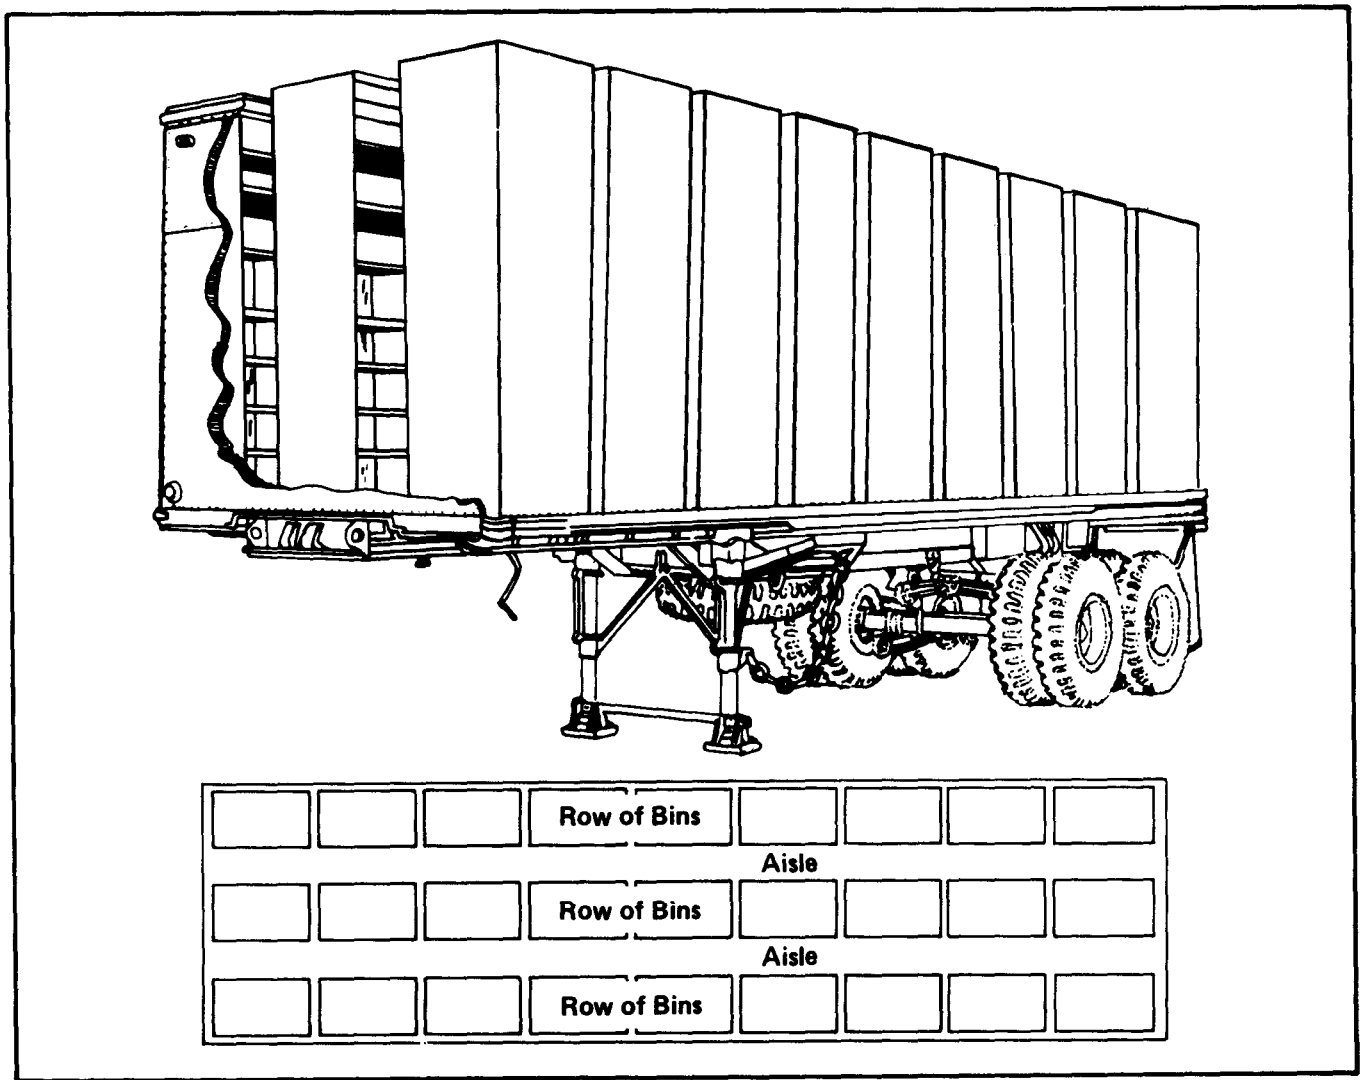

Figure 12-2. The 12-ton M129A2C semitrailer van with bins
• Storage capacity could be increased further by adding another row of nine aids in the center of the van (see Figure 12-2). This would increase usable storage space to 759.24 cubic feet (253.08 + 506.16), but it would reduce aisle width. In this case, only small items could be moved through the narrow aisles and stored.